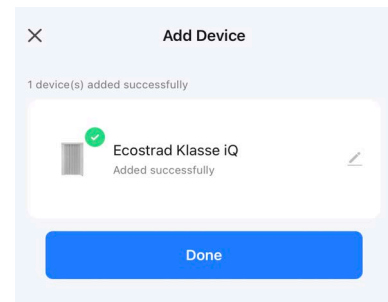

Figure 13 | Finishing connection process
- The radiator will begin connecting. When it is successfully added, it will appear on the app as in **Figure 13**. Press  to change the name of the radiator or "Done" to return to the home screen.